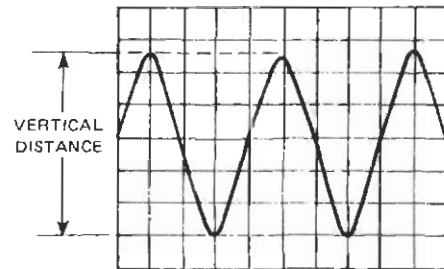

Figure 2-13. Peak-to-peak voltage measurement
2. Adjust the TIME/DIV switch (20) or (21) to display two or three cycles of waveform, and set the VOLTS/DIV switch (11) for the largest-possible totally-on-screen display.
3. Use the appropriate Vertical Position control (14) or (15) to position the negative signal peaks on the nearest horizontal graticule line below the signal peaks, per Figure 2-13.
4. Use the Horizontal Position control (24) to position one of the positive peaks on the central vertical graticule line. This line has additional calibration marks equal to 0.2 major division each.
5. Count the number of divisions from the graticule line touching the negative signal peaks to the intersection of the positive signal with the central vertical graticule line. Multiply this number by the VOLTS/DIV switch setting to obtain the peak-to-peak voltage of the waveform. For example, if the VOLTS/DIV switch were set to 2V, the waveform shown in Figure 2-13 would be 11.2V p-p (5.6 div  $\times$  2V).
7. If measuring a sine wave below 100 Hz, or a rectangular wave below 1000 Hz, set the AC/GND/DC switch (13) to DC.